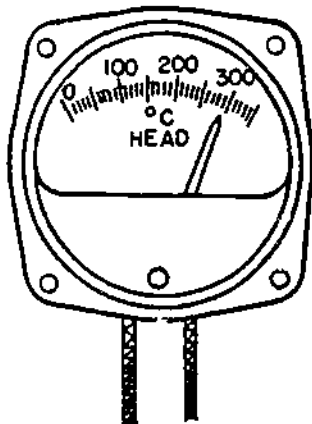
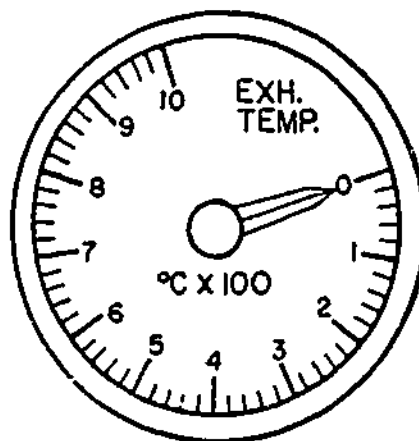

Figure 16.
Figure 17.
The thermocouple thermometer indicator is basically a D'Arsonval millivoltmeter. Instead of the dial being calibrated to indicate millivolts it is calibrated in degrees Celsius. Figure 16 shows the type of indicator used with the cylinder head temperature system. Figure 17 shows the type of indicator used with the jet engine exhaust gas temperature system.
Refer to figures 16 and 17 and circle the letter of the correct response(s) to the following statement(s).
1. The indicator in figure 16 is calibrated to indicate cylinder head temperature in
2. The dial of the indicator shown in figure 17 is calibrated from